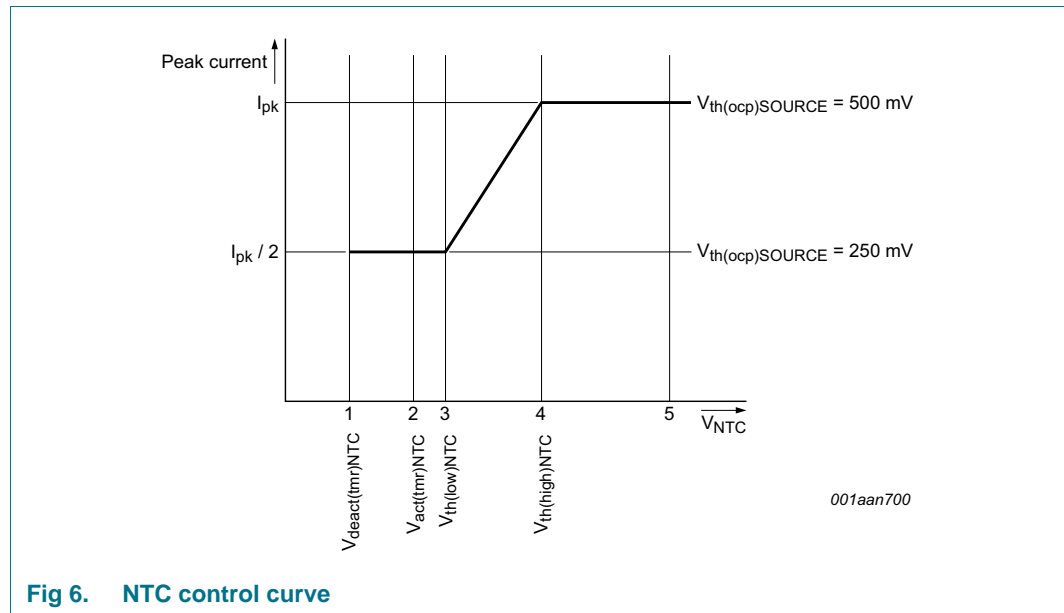

Fig 6. NTC control curve
The NTC pin can be used as a control method for LED thermal protection. Alternatively, the pin can be used as an input to disable/enable light output using a digital signal (PWM current regulation). The pin has an internal current source that generates the  $I_{offset(NTC)}$  current. To monitor the LED temperature, an NTC resistor can be connected directly to the NTC pin. Depending on the resistance value and the corresponding voltage on the NTC pin, the converter reacts as shown in Figure 6.
When the voltage on the NTC pin exceeds  $V_{th(high)NTC}$  (see Figure 6 (4)), the converter delivers nominal output current. When the voltage is lower than this level, the peak current is gradually reduced until  $V_{th(low)NTC}$  is reached (see Figure 6 (3)). The peak current is now half the peak current of nominal operation. When  $V_{act(tmr)NTC}$  is passed (see Figure 6 (2)), a timer starts to run to distinguish between the following situations:
- If the low-level  $V_{deact(tmr)NTC}$  is not reached within time  $t_{to(deact)NTC}$  (see Figure 6 (1)), LED overtemperature is detected. The IC stops switching and attempts to restart from the HV pin voltage. Restart takes place when the voltage on the NTC pin is higher than  $V_{th(low)NTC}$  (see Figure 6 (4)). It is assumed that the reduction in peak current does not result in a lower NTC temperature and LED OTP is activated.
- If the low-level  $V_{deact(tmr)NTC}$  is reached within the time  $t_{to(deact)NTC}$  (see Figure 6 (1)), it is assumed that the pin is pulled down externally. The internal current source  $I_{offset(NTC)}$  is switched off in this mode. The restart function is not triggered. Instead, the output current is reduced to zero. PWM current regulation can be implemented this way. The output current rises again when the voltage applied on the NTC pin is higher than  $V_{th(low)NTC}$ .